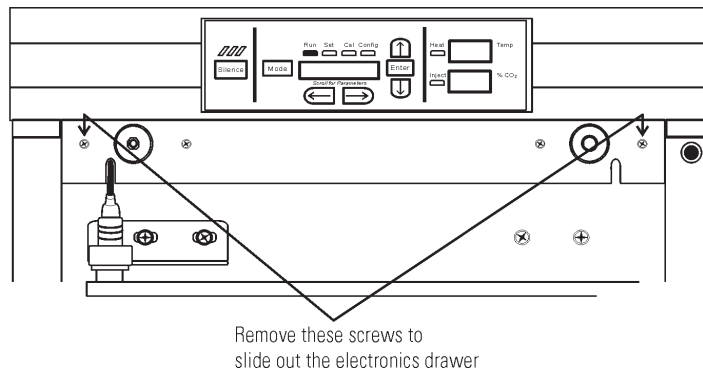

Figure 5-7. Screw Locations
4. Remove two screws as shown. See Figure 5-7.